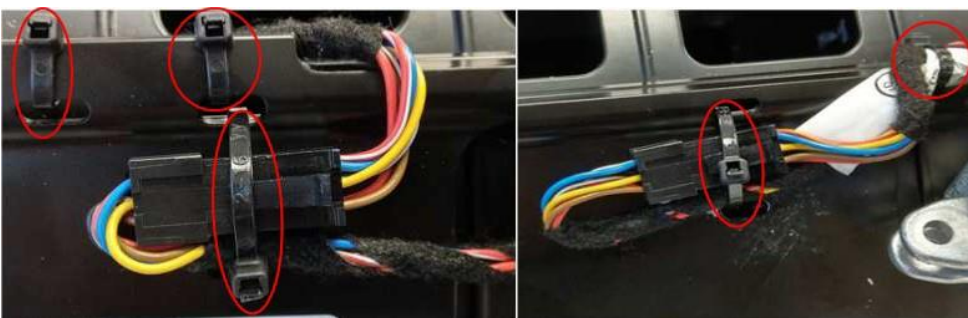

Figure 1
- Remove the cable ties highlighted that hold the motor harnesses to the housing, take note of the locations (Figure 1)